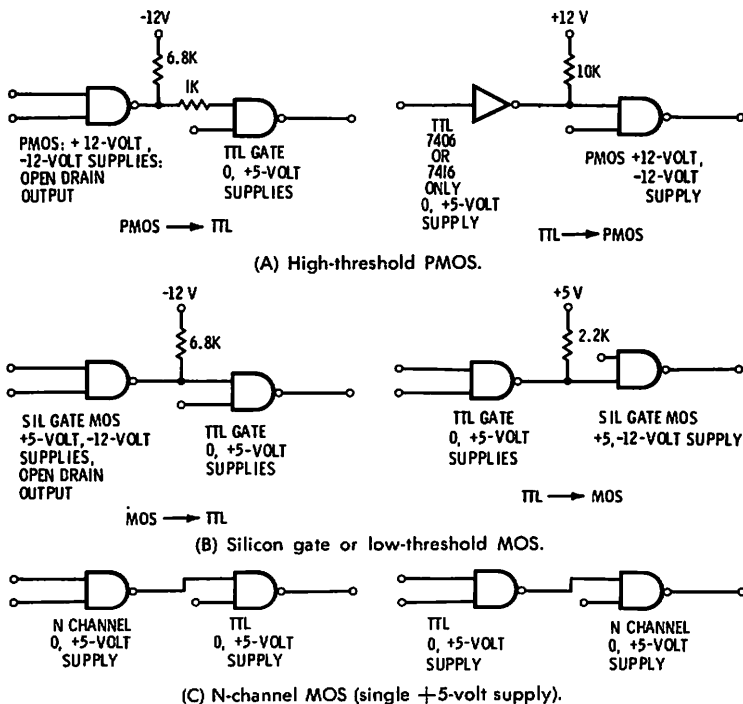

Fig. 1-14. Some typical MOS-to-TTL interfacing techniques.
**MOS—Silicon gate or n-channel low-threshold MOS sometimes needs a pull-down resistor on its outputs to properly drive TTL (Fig. 1-14).** When TTL drives MOS, a *pull-up* resistor is usually needed. TTL fan-out into MOS is very high, but MOS fan-out into TTL is usually one input and often you cannot simultaneously drive MOS and TTL. Older, high-threshold PMOS families may need open-collector outputs and pull-up resistors on the TTL drivers if the positive sup-